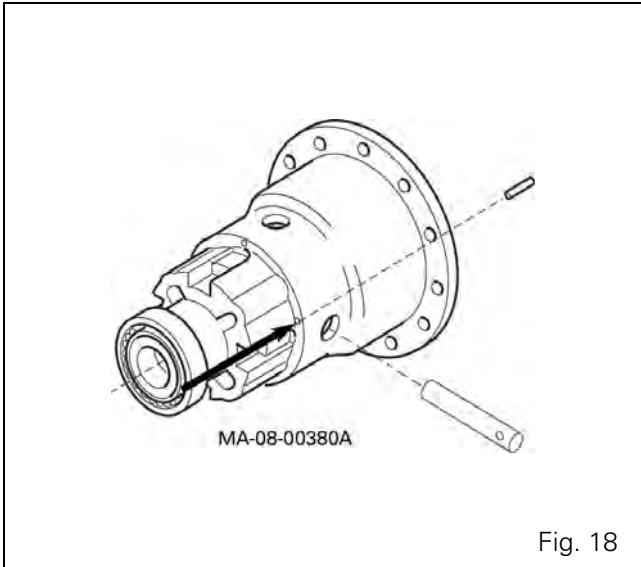

Fig. 18
23. Use a fine punch to extract the locating pin in order to remove the long pin (Fig. 18).